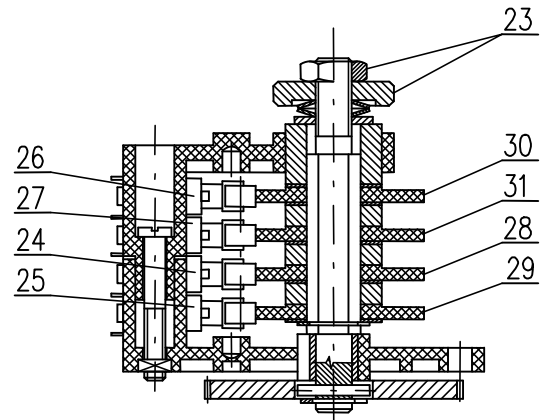

Fig. 5
4.2 Adjustment of position-indicating unit (Fig.5)
The EA are in the production plant adjusted to a fixed angle (according to the specification), given on the nameplate. While setting, adjusting and resetting follow these steps (Fig. 5):